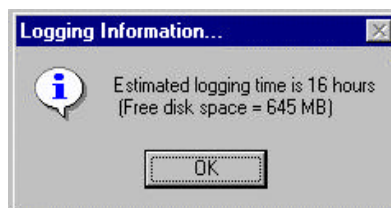

Figure 3.11 Logging Information Window
4. When data recording is started, a “Logging Information” advisory window appears (Ref to Fig 3.11). The window identifies how much disk space is available and approximately how long it would take to fill the hard drive (based on the current compression ratio) if the video recorder is activated. Click on the “OK” button or press the “Enter” key, if there is sufficient disk space. If insufficient space is unavailable, recording of the video images is not possible, however, video frames can be received and displayed on the main screen, only the capability to save the video data is lost. If video recording is required or anticipated, recommend either transfer or deleted existing files to free up hard drive space.(See Section 4 for procedures for video file management.)